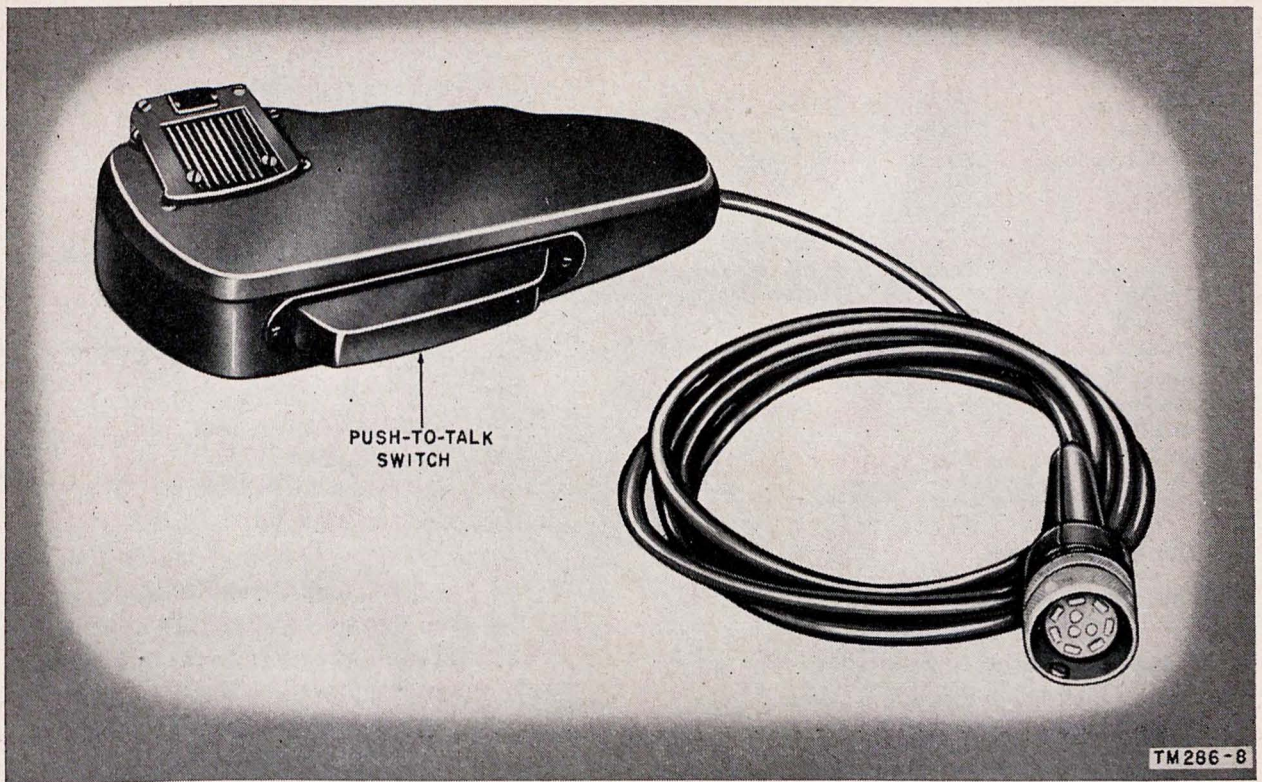

Figure 14. Microphone M-29/U.
f. MICROPHONE M-29/U. Microphone M-29/U (fig. 14) consists of a 300-ohm carbon-microphone element in a plastic case with a push-to-talk switch and connecting cord attached. The push-to-talk control is a nonlocking DPST switch. The